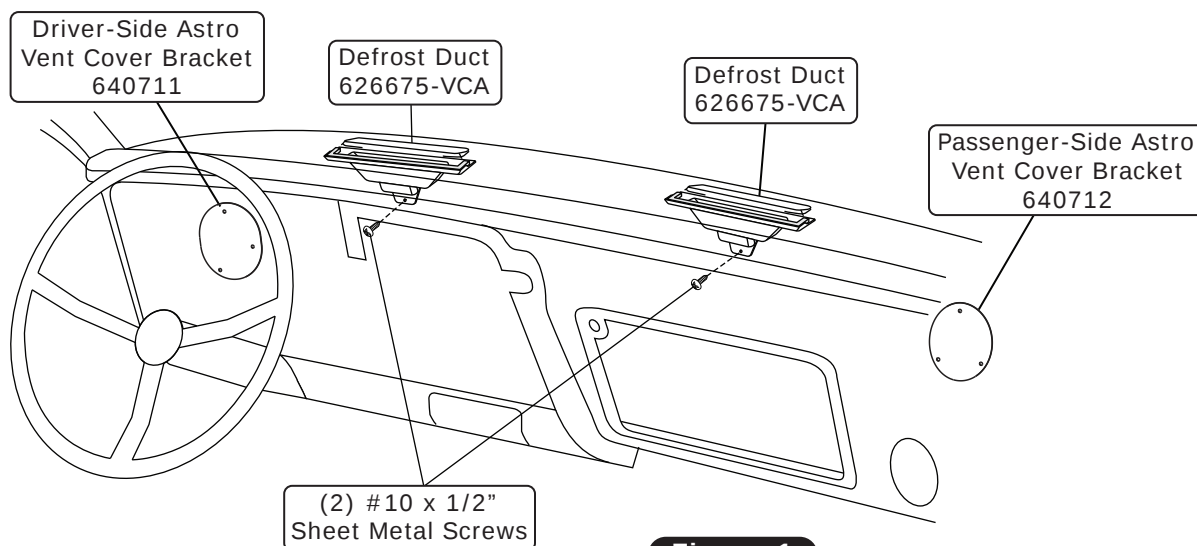

Figure 1
2. Install the driver- and passenger-side fresh air covers, apply a bead of silicone to the mating surface of the covers and secure using OEM hardware (See Figure 1, below).